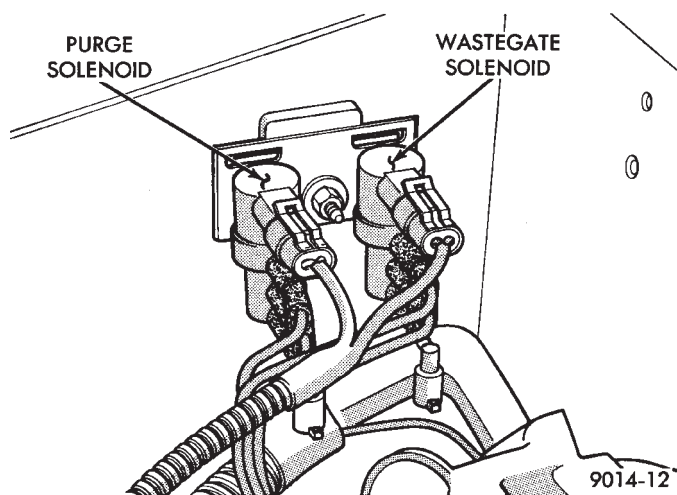

Fig. 15 Solenoid Mounting Turbo I Engines
(1) Remove vacuum hose and electrical connector from solenoids (Fig. 15).
(2) Remove solenoid pack mounting nut. Remove solenoid pack.
(3) Depress tab on top of solenoid to be replaced and slide the solenoid downward out of mounting bracket.
(4) Reverse above procedure for installation.